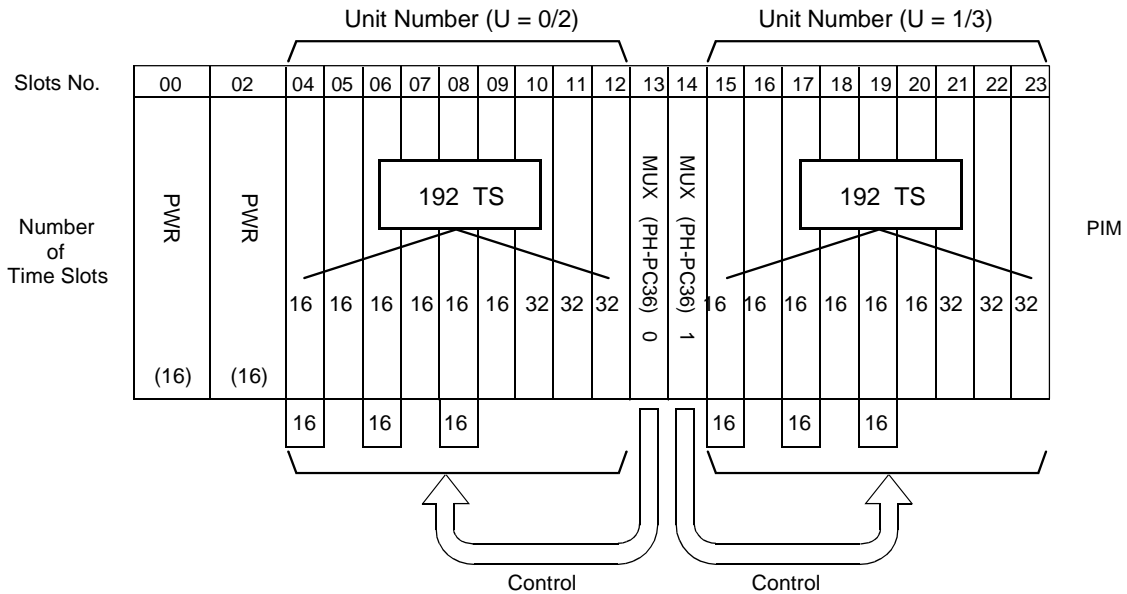

Figure 2-14 Unit Number Allocations (LN0/1/2/3)
Details on Unit (U) numbers are shown in Figure 2-14. The numbers range from 0 to 3, and each unit represents the PIM universal slots, No. 04-12 (U 0/2) or No. 15-23 (U 1/3).